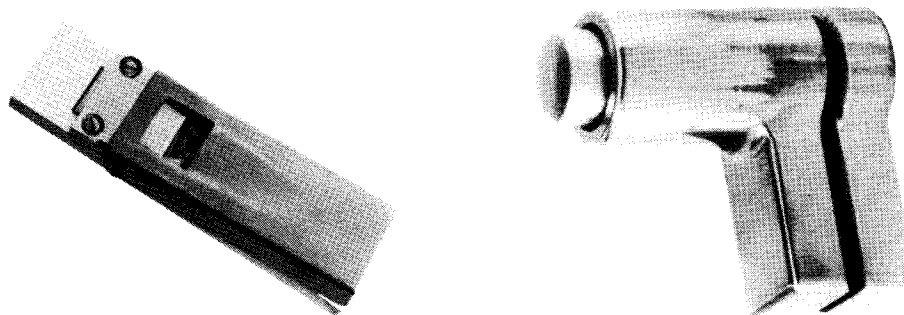

Figure 4—1. Tape Dressing Tool
2. Insert tape edge into tape slot on tape dressing tool (Sperry Univac part number 3093952) (Figure 4—1).
Tapes used on the tape unit must include the load point (also known as beginning-of-tape or BOT) marker and the end-of-tape warning marker, as illustrated in Figure 4—2.